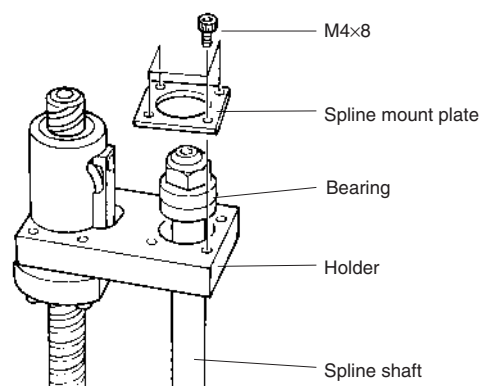
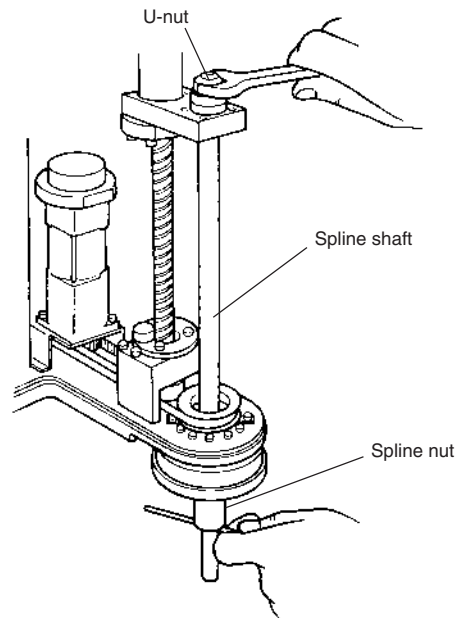

Fig. 5-11
Fig. 5-12
- 6) Remove the bolts (M4×8L, 4 pieces) securing the bearing to the upper end of the spline and remove the spline mount plate, spline and bearing from the holder. (See Fig. 5-11.)
- 7) While placing a steel rod or similar tool through the 5mm diameter hole at the lower part of the spline, loosen the U-nut at the top of the spline with the wrench, and remove the bearing. (See Fig. 5-12.)
- 22) Insert the spline into the holder, fit the bearing onto the spline and tighten the U-nut to secure the bearing. (Utilize the $\phi 5$ through-hole when tightening the U-nut like you did to loosen it.) (See Fig. 5-11 and Fig. 5-12.)